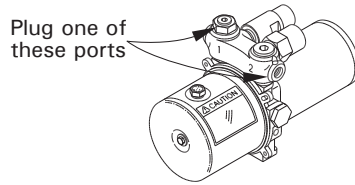

**FIGURE 19**
3. Connect the upstream line coming from the master cylinder to the fluid inlet port on one end of the actuator. Note that the actuator is not directional and does not have a front and rear. Connect the downstream line going to the rear brakes from the side outlet port on the same end of the dual actuator. See Figure 19.